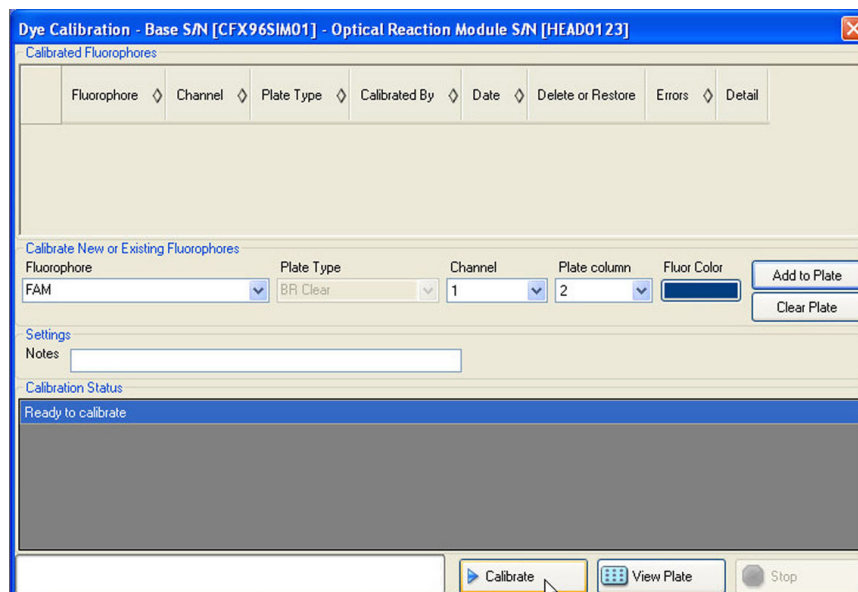

Figure 81. Dye Calibration window.
2. Select **Tool > Calibration Wizard** to open the window and calibrate new dye and plate combinations (Figure 81).
Figure 81 shows an example of the Dye Calibration window.